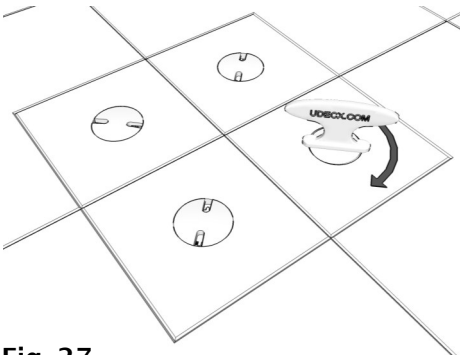

Fig. 27
Insert Cam Locks (C) into the 4 cam ways in each additional Pad (B) (Fig. 27) and lock all Cam Locks (C) using the Lock Tool (E). (Fig. 28)